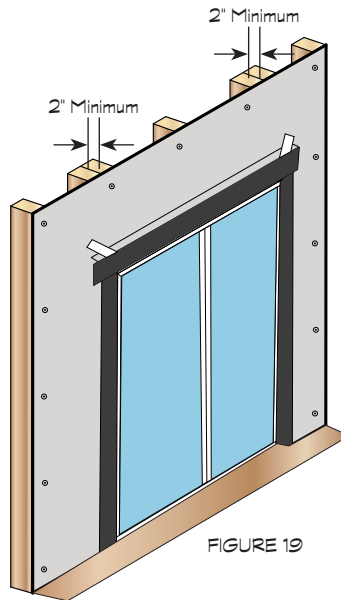

FIGURE 19
19. Apply **jamb** flashing over the jamb nailing fin, continuing over and beyond the sill flashing, at least 2", then apply **head** flashing similarly extending 2" past either side of the jamb flashing, to complete the door flashing detail (Figure 19).